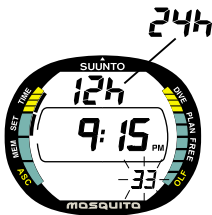

Fig. 4.3. The Time Adjustment Mode is activated and the second digits are blinking. Page I.
2. Wait two seconds until the Time Adjustment Mode activates automatically. The time mode indicator appears and the second digits start to blink on the display (Fig. 4.3.).